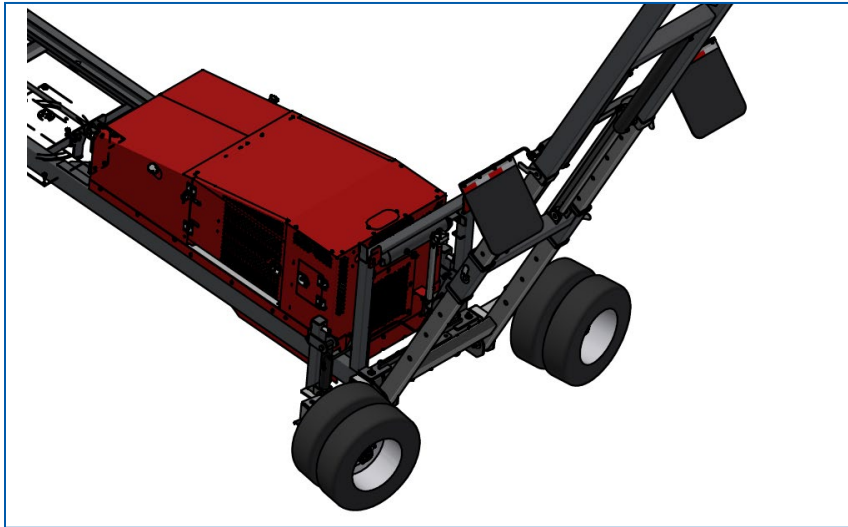

Figure 4: Pin Holes
- Continue raising the conveyor to the appropriate height. Adjust the height of the conveyor to align with the nearest pin holes located on the inner undercarriage (Figure 4). Replace the pins (X2) and lower the conveyor to ensure the pins are carrying the weight of the conveyor.